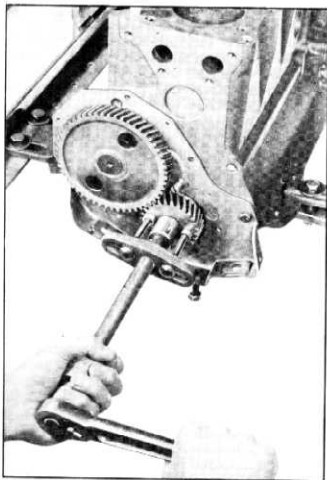

Fig. 41—Removing Crankshaft Gear
24. Pull the crankshaft gear with gear puller T126-R by attaching it to the gear and turning the puller handle (fig. 41).